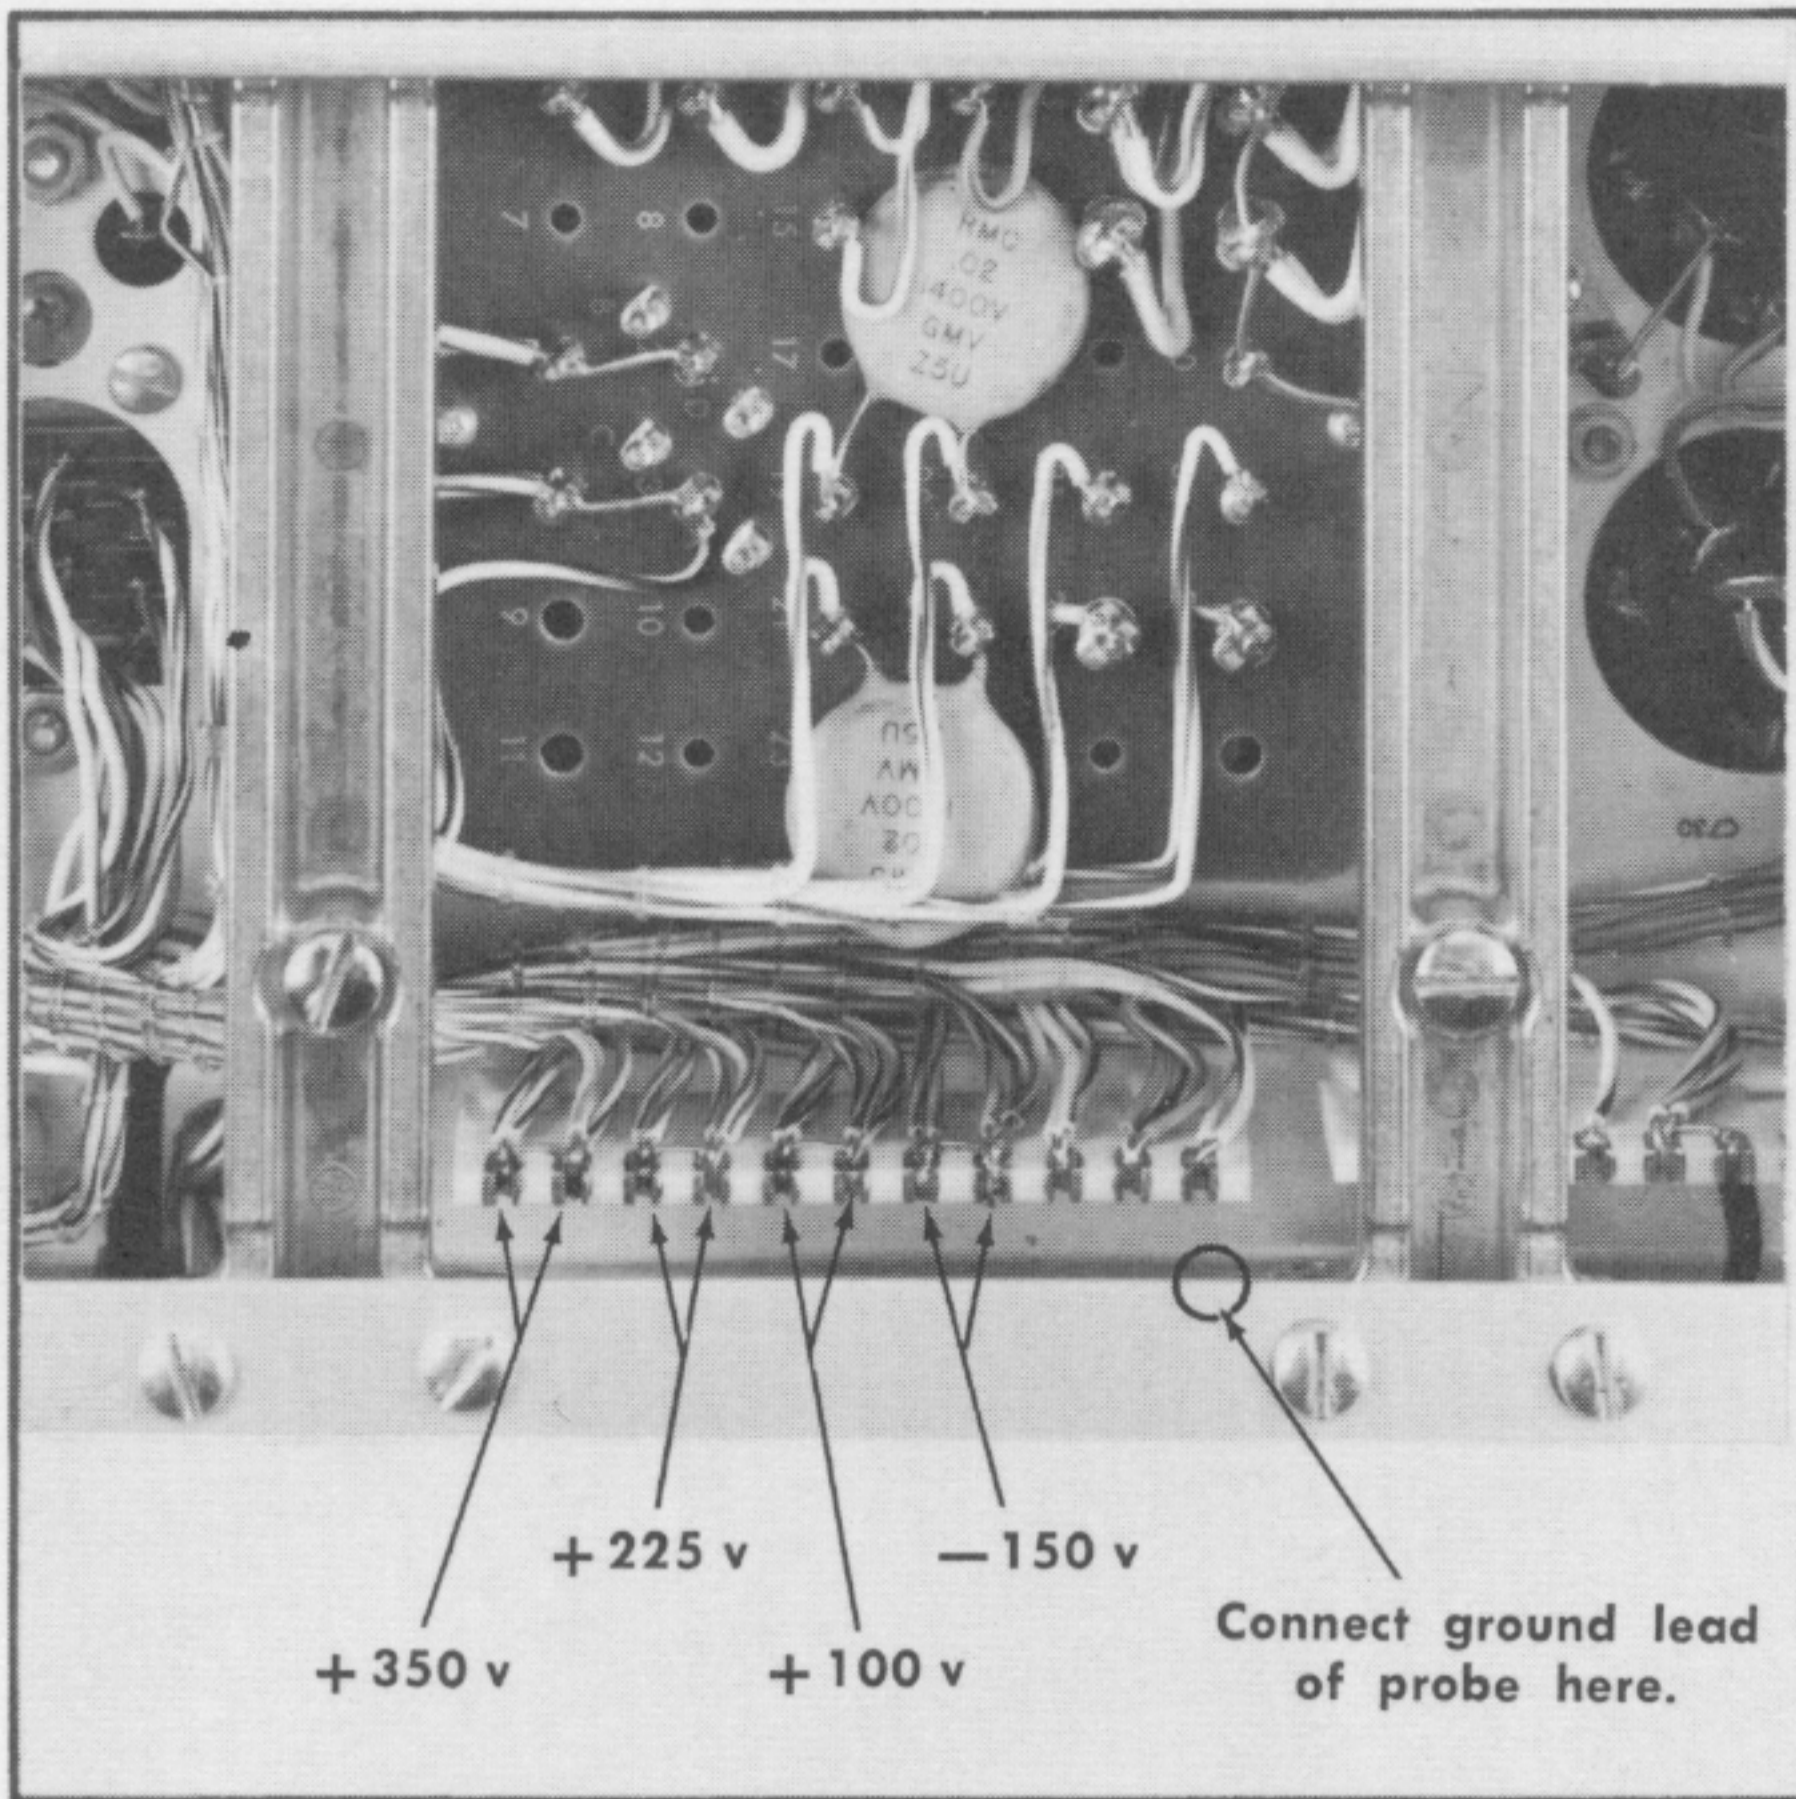

Fig. 5-1. Low-voltage power supply test point locations (bottom of instrument near power transformer).
5. Using the VOM, check the resistance at the regulated bus of each power-supply lead to ground at the test points shown in Fig. 5-1. The values of resistances should be approximately as indicated in Table 5-1, once the capacitors are charged by the VOM internal battery.
- c. Check the voltage accuracy of each power supply output using the VOM (item 4) according to the information given in Table 5-3. The location of the test points is shown in Fig. 5-1.
- a. Monitor the regulated output of the —150-volt supply with the VOM. The test point location is shown in Fig. 5-1.
- b. Connect a 1X probe from a test oscilloscope (item 1) to the —150-volt test point and check the output ripple amplitude. The maximum ripple voltage is given in Table 5-3.
signal probe body to make a ground connection to the oscilloscope chassis at the location shown in Fig. 5-1. The probe will then provide the only ground connection between the two instruments. The term "test oscilloscope" is item 1 while the term "oscilloscope" or "instrument" is the oscilloscope being calibrated.